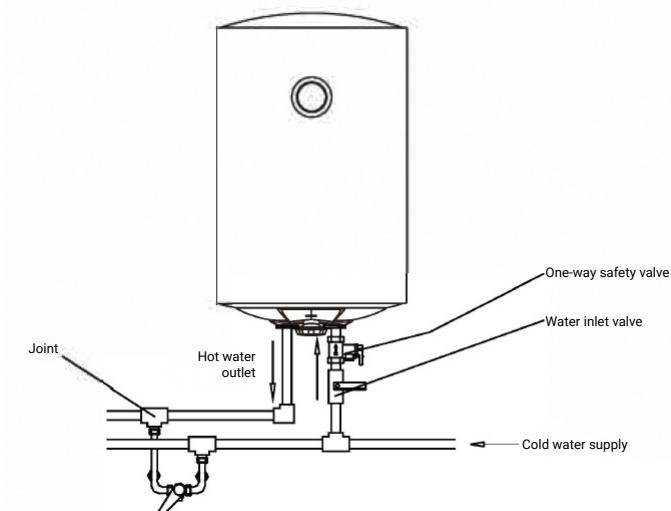

Fig. 4
- If the users want to install a multi-way supply system, refer to the method shown in Fig. 4 for connection of the pipelines.